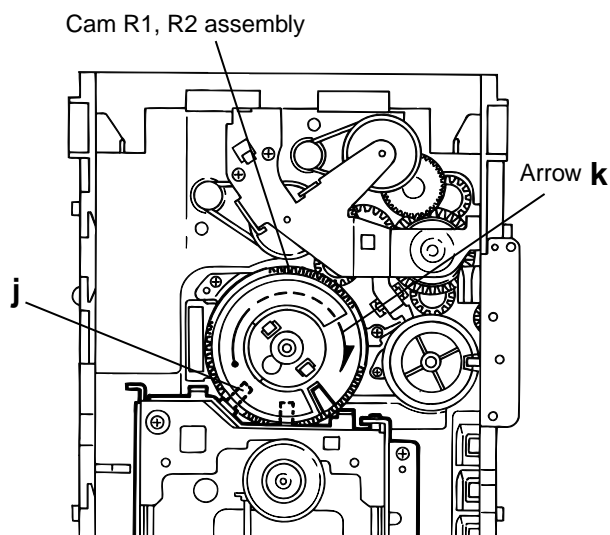

Fig.11
## ■ Removing the CD traverse mechanism (See Fig.11 and 12)
1. For dismantling only the CD traverse mechanism without removing the CD loading mechanism assembly, align the shaft "j" of the CD loading mechanism assembly to the position shown Fig.11 while turning the cam R1 and R2 assembly in the arrow direction "k".